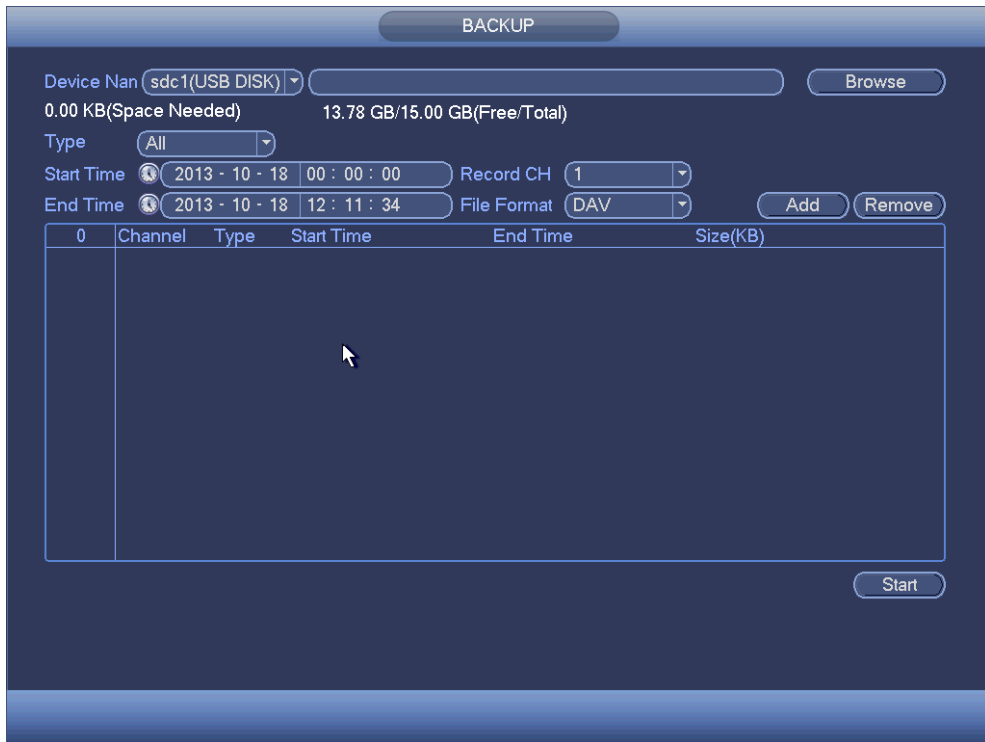

Figure 4-223
- b) From Main menu->Backup, you can go to the Backup interface. See Figure 4-223